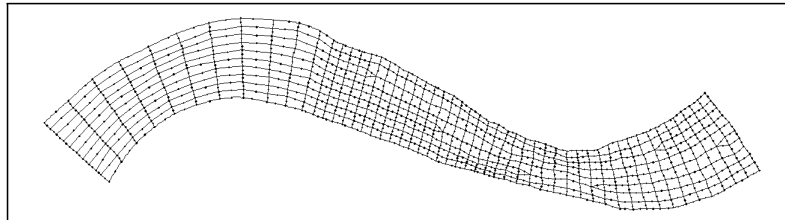

Figure 11. Example of mesh after smoothing.
3. Select *Nodestrings / Smooth*. The mesh boundary will be smoothed as shown in Figure 11.